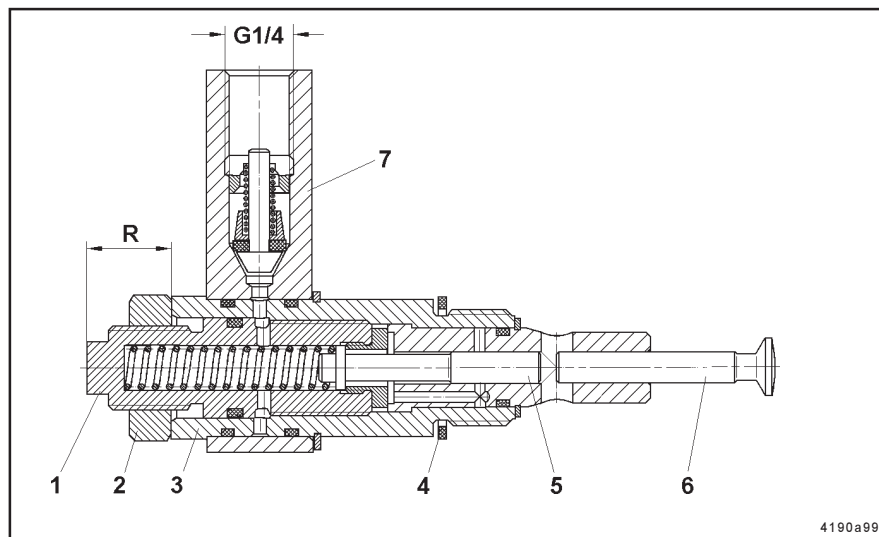

Fig. 4 - Sectional drawing of the pump element
- * Loosen counter nut 2 (Fig. 4) and, using a second key, simultaneously keep threaded sleeve 3 from turning.
- The "R" dimension shown in Fig. 4 indicates the approximate lubricant output range:
- * Once the pump is filled with grease, dig a hole in the grease with a suitable object up to the eccentric ring (Fig.4).
- * Check whether the pump element is equipped with a gasket (see item. 4, Fig. 4).
- First screw the pump element in by hand and then tighten it at the screwed plug 3 (Fig. 4) using a fork wrench SW27. Tightening torque: 30 - 35 Nm
- * Apply the fork wrench at the screwed plug (3, Fig. 4) of the pump element and carefully unscrew the pump element.